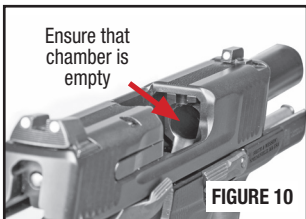

FIGURE 10
- Check the barrel chamber and verify that the pistol is unloaded (FIGURE 10).